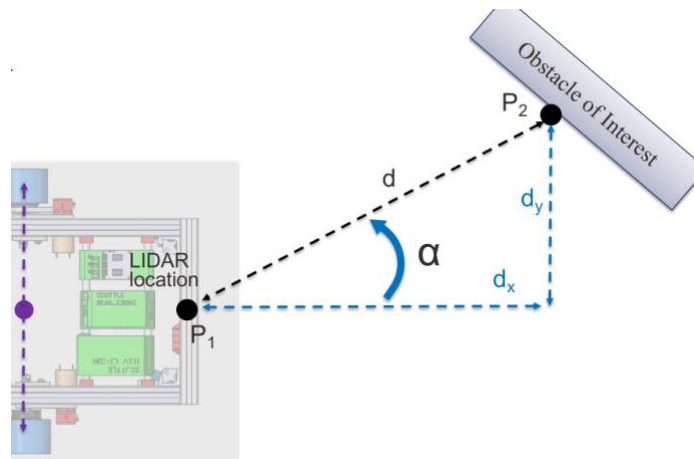

Figure 3: Relationship of (d, θ) with (x, y)
3. Lastly, add code to your L3 script to also log the x and y components of the closest obstacle vector. Refer to figure 3 above.